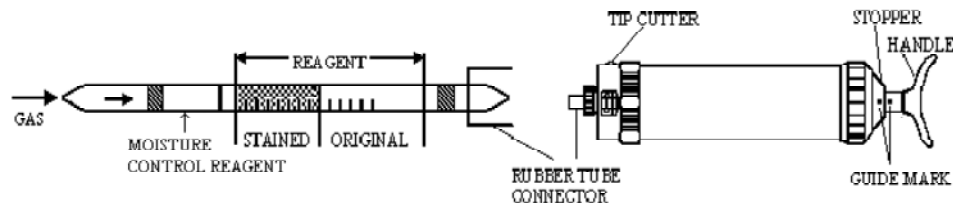

Fig.1
- ① Break both ends of detector tube.
- ② Insert the detector tube into aspirating pump securely as shown in Fig.1. (Arrow mark shall point to the pump.)
- ③ Align the guide marks on the shaft and stopper of the aspirating pump.
- ④ Pull the pump handle at full stroke until it locks and wait for 1.5 minutes or until the completion of sampling is confirmed with the flow indicator of the pump (See descriptions about the flow indicator in the instructions of the pump).
- ⑤ On completion of sampling, read the scale at the maximum point of the stained layer.
- ⑥ In case of 2 pump strokes, push the handle once more without removing the detector tube from the pump inlet, turn it right or left 1/4 and repeat step ④ once.
- ⑦ In this case, actual concentration is half of the reading value.